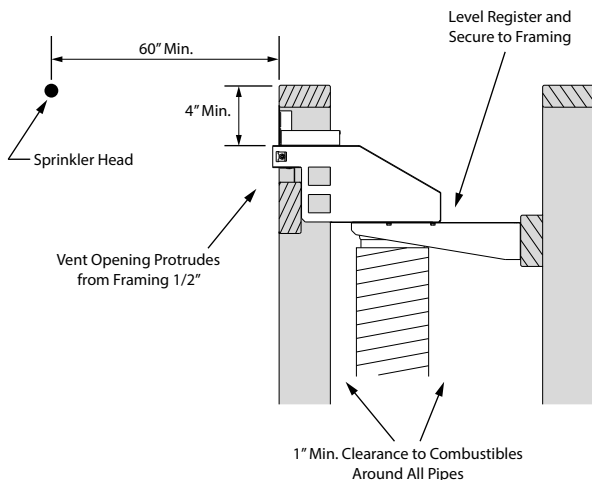

Figure 8 - Register Clearances
3. Ensure the register is leveled and its outlet is not distorted, then secure using support brackets (**Figures 8 and 9**). Support brackets must be secured to both register and framing.